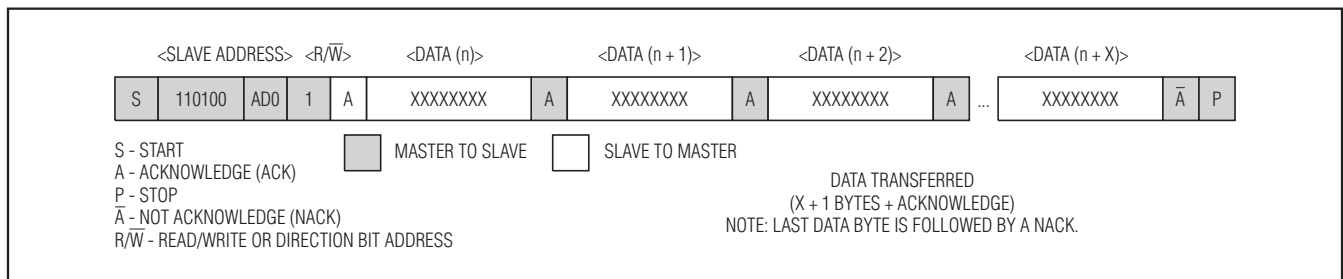

Figure 7. Data Read (from Current Pointer Location)—Slave Transmitter Mode
2) Slave transmitter mode (DS1372 read mode): The first byte is received and handled as in the slave receiver mode. However, in this mode, the direction bit indicates that the transfer direction is reversed. The DS1372 transmits serial data on SDA while the serial clock is input on SCL. START and STOP conditions are recognized as the beginning and end of a serial transfer (see Figure 7). The slave address byte is the first byte received after the master generates the START condition. The slave address byte contains the 7-bit DS1372 address, which is 110100 and AD0. Each slave address is followed by the